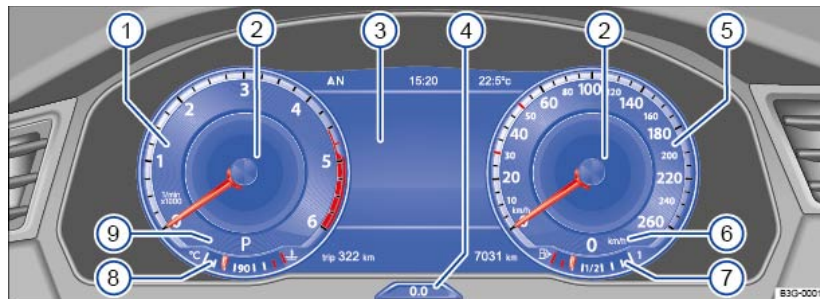

Fig. 15 Dash panel: Active Info Display.
Descriptions of the instruments \Rightarrow Fig. 15 :
To select a specific information profile, go to the **Views** menu option in the display of the instrument cluster ⇒ *Instrument cluster menus* . The Active Info Display shows additional information in the centre of the dials ⇒ *Fig. 15* ② depending on the information profile you have selected. The following information profiles are available: